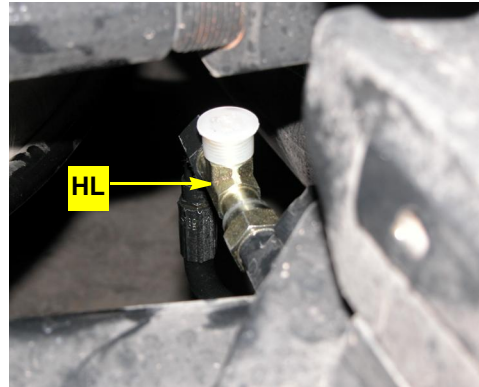

Figure 4b: Installed run-tee
- b. Install the provided run-tees **HL** to the head end of the right and left steering cylinders (Figure 4b).